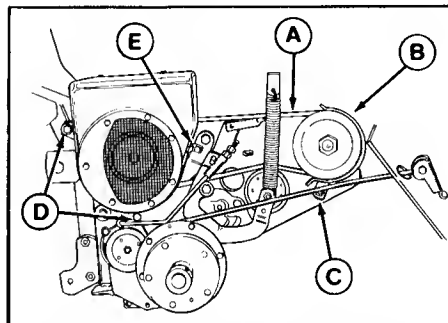

Figure 17. Drive Belt Replacement - Hydrostatic
3. Remove the capscrew (C, figure 17) and remove the belt guard assembly (B).
4. Remove the two capscrews (D) and the thread forming screw (E) to remove the fan guard assembly.